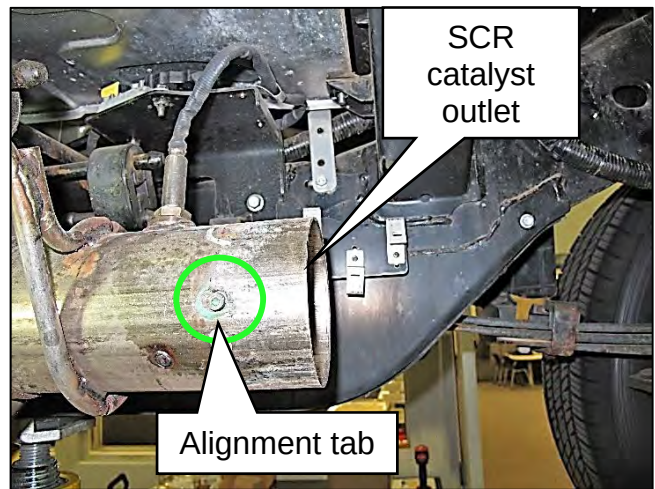

Figure 11
3. Locate the SCR catalyst outlet and alignment tab (Figure 11).